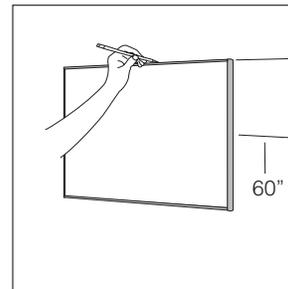

Fig. 1
1. After selecting location, determine where the top of the unit should be positioned and mark a line with light pencil or masking tape. (Fig. 1) For comfortable viewing and servicing, the center of the module should be approximately 60" from the finished floor.